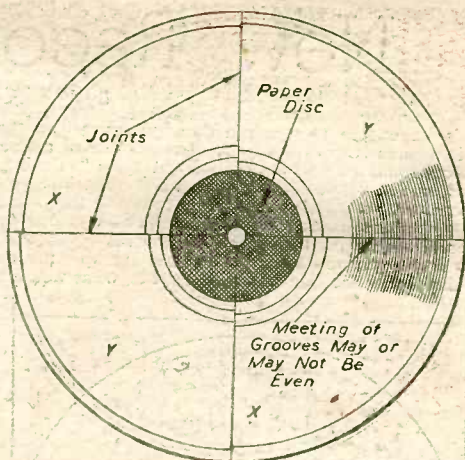

Fig. 4.—A record disc cut into four equal sections, with two sections reversed and placed between the other two sections.
The half sections were then cut to make four quarter segments, as shown at Fig. 4. Two of the segments were reversed (Y) and placed between the other two segments (X). This unusual form of "record" produced a mumbo-jumbo that would sit up and take notice!